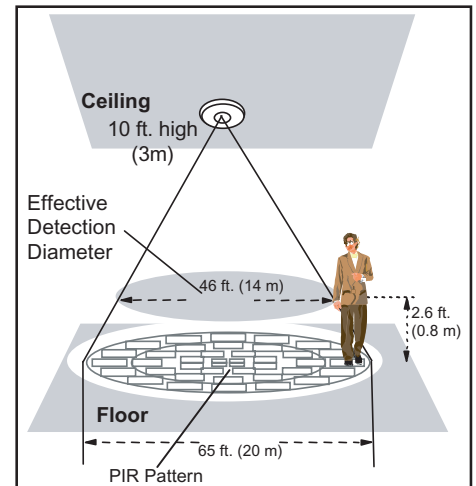

Figure 4: Detection Pattern
- So the expected intruder movement is across the detection pattern fields, see Figures 4 and 5.
During the Walk Test the installer walks around the room where the PIR is installed to detect the PIR coverage. See Figures 4 and 5.